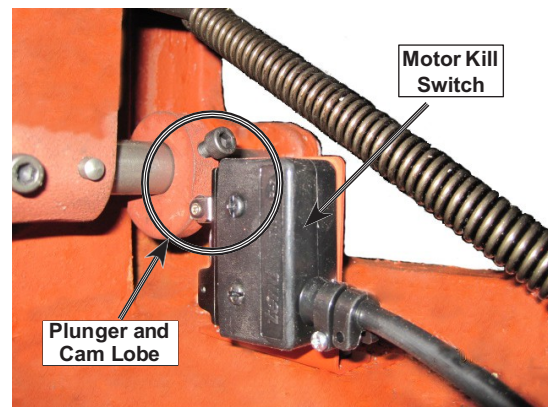

Figure 96. Motor kill switch.
10. Locate the motor kill switch (shown in Figure 96) at the tailstock end of the lathe.